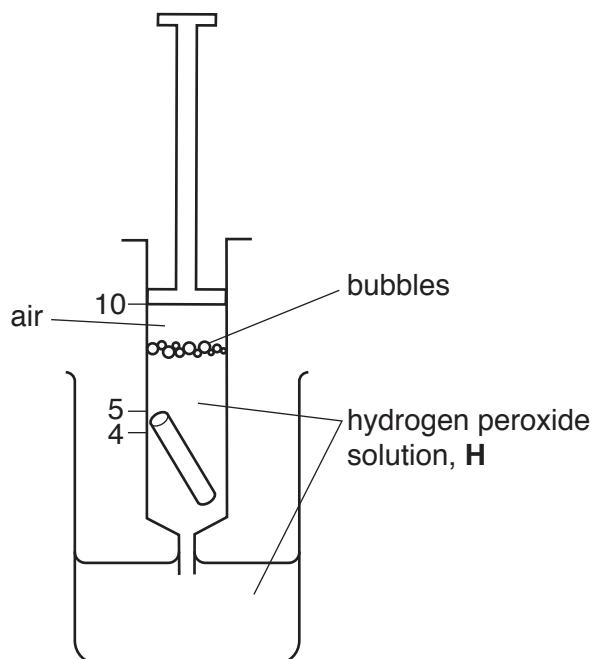

Fig. 1.6
9. Pull the plunger out to the 10cm^3 mark so that **H** enters the syringe, as shown in Fig. 1.6.